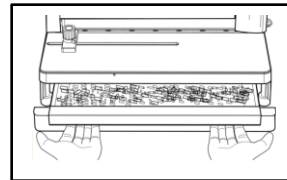

Figure 6
- F. **CHIP TRAY:** The chip tray collects all of the paper chads when punching paper and covers. The chip tray must be emptied on a regular basis. (Figure 6)